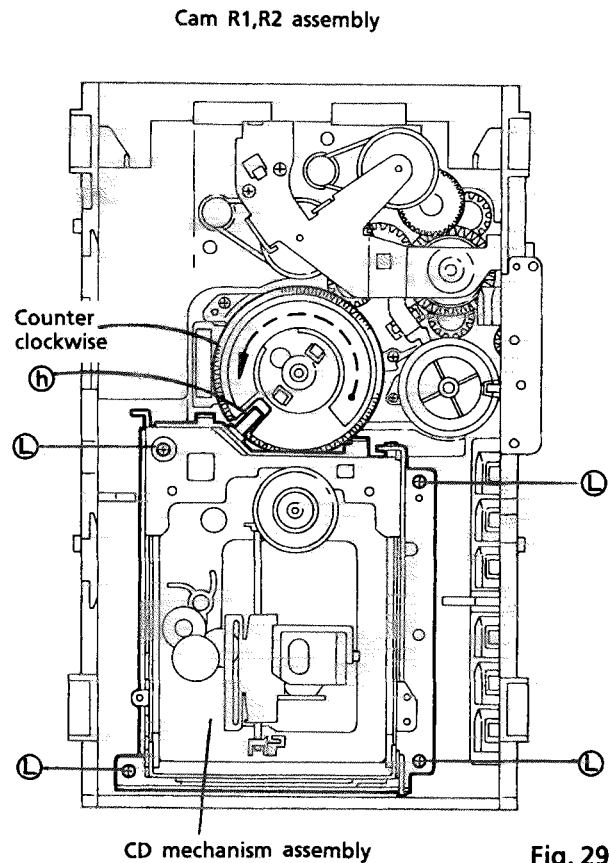

Fig. 29
2. Rotate the Cam R1, R2 ass'y counterclockwise so that CD mech. ass'y's shaft ⑧ is positioned as shown in Fig. 29.
3. Remove 4 screws ⑨ securing CD mech. ass'y. (See Fig. 29.)